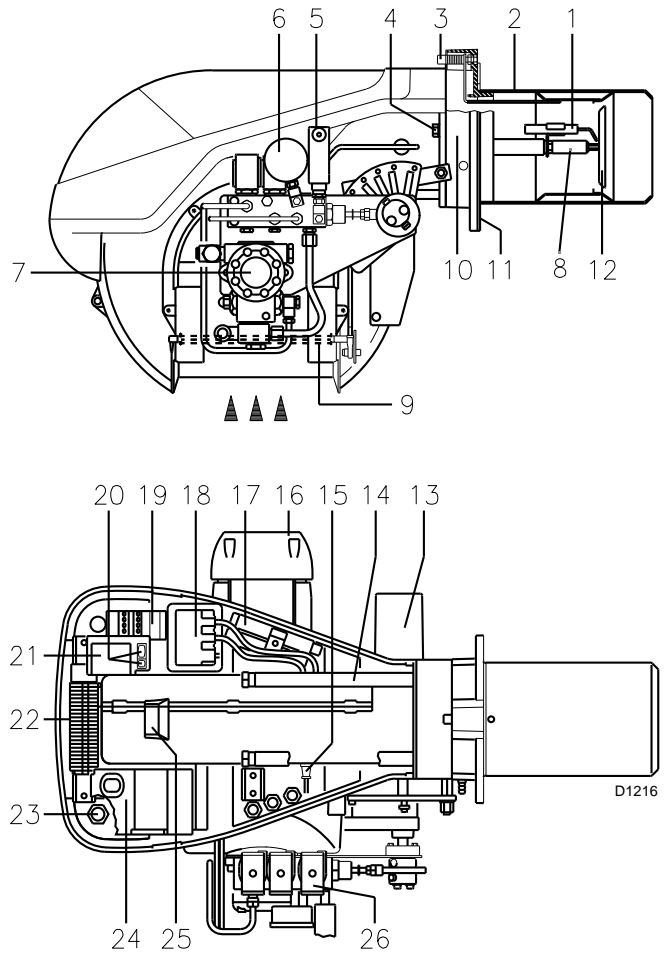

Fig. 4
if the control box 24)(Fig. 4) pushbutton lights up, it indicates that the burner is in lock-out. To reset, press the pushbutton.
release by pressing the pushbutton on thermal relay 19)(Fig. 4).
- 4 Extensions 17)(Fig. 4) for slide bars 14)(Fig. 4) (for models with 385 mm blast tube)